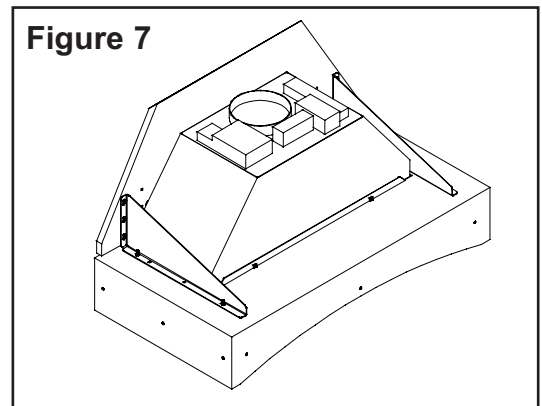

**Figure 6**
**Step 6:** Fasten the Metal Mounting brackets to the liner with 4 each 10-24 x 3/4" screws and nuts. Only hand tighten these at this time (See figure 6).